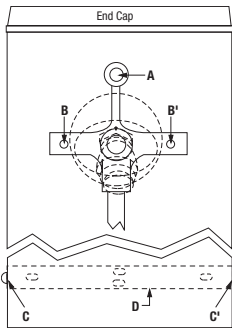

Figure 4.
The piping and Hydropanel II shrouding come pre-assembled (Figure 4). To detach, remove the screws at the showerhead (A) and bottom bracket (C and C'). Slide the piping out of shrouding; the showerhead remains part of the shroud.
The bottom bracket (Figure 4,D) will attach to the wall 19-1/4" below showerhead height (see Figure 3). Use the bracket as a template to mark positions for two mounting holes. Drill holes and attach the bracket.
The chrome plated end cap (Figure 4) on top of the shrouding has a section marked to be broken out for vertical and horizontal piping clearance. To remove the marked piece, hit it sharply with a hammer. **Do not remove** the entire end cap from the shrouding.
Use screws to attach the shrouding to the piping bracket and to bottom mounting bracket (Figure 4, A and C).